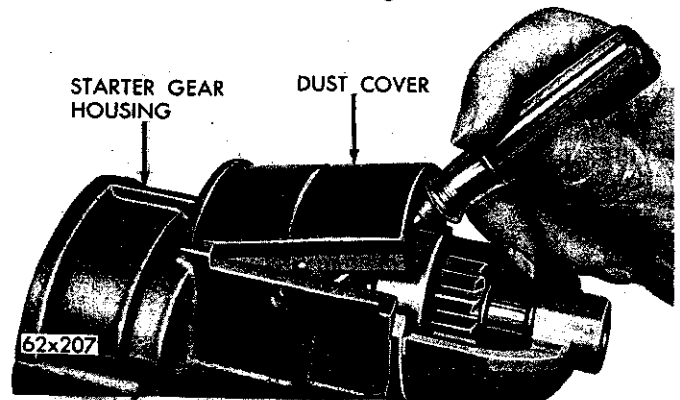

Fig. 10—Removing the Dust Cover
(20) Remove the dust cover from the gear housing (Fig. 10).